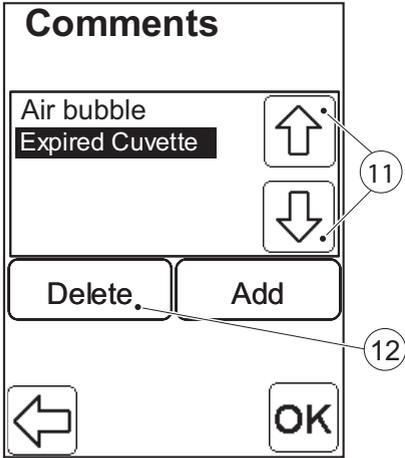

FIGURE 6-18
- f) If comments are to be deleted, press the Delete button (10). *FIGURE 6-18* will be displayed.